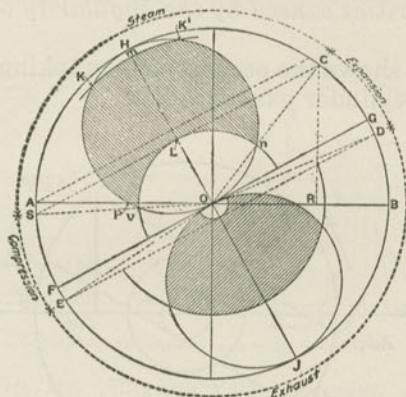

Fig. 168. Zeuner Valve Diagram.
A. Referring to Fig. 168, *AB* represents the piston path and valve travel on different scales, the circle thereon the crank-pin path, and the eccentric-center path. Marking *M* and *C* as the crank position at points of ad-